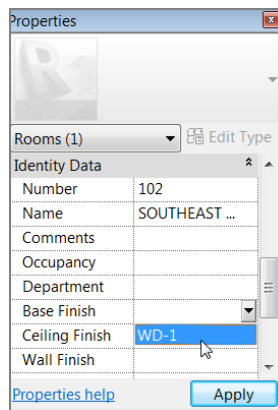

FIGURE 15.8: When a field has been added to the database, it's available for the rest of the rooms.
8. Add VCT to Floor Finish (see Figure 15.8).
10. In the Properties dialog box, click into the Base Finish field. Click the arrow for the pull-down menu, and select WD-1, as shown in Figure 15.8.